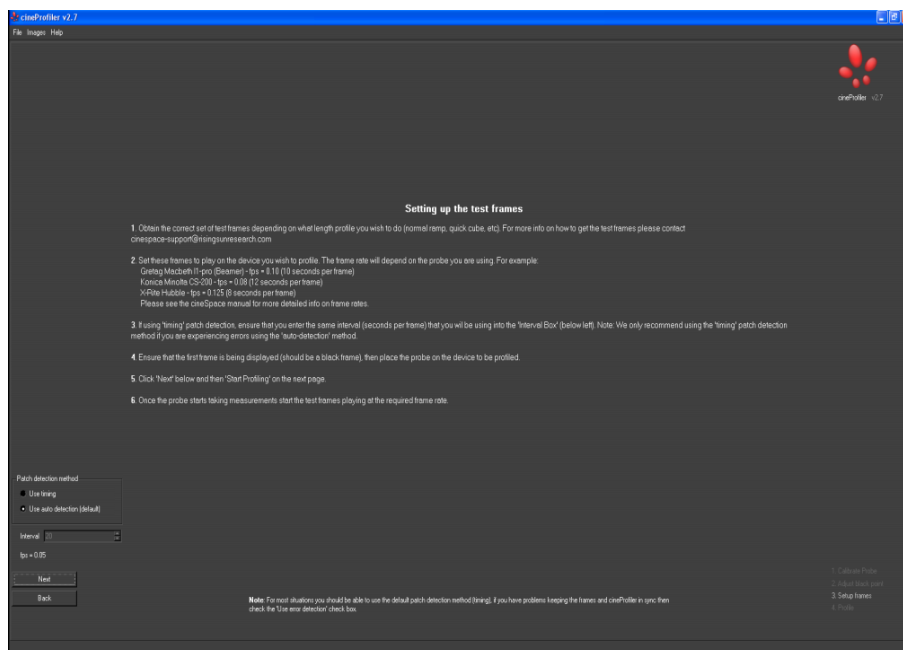

Figure 5.10: Output Independent Profiling
7. You will then be presented with the *Setting up the test frames* page (Figure 5.10), which will confirm the instructions presented here in the manual. Enter the correct *Interval* corresponding to the frame rate (in seconds per frame) chosen in the application that will be playing the test patches, then click *Next* to continue.